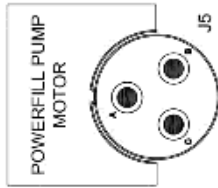

Figure 24: Wiring Schematic for 400Hz AC Bucket Refill Pump
The 400Hz AC bucket refill pump requires 38A at 208VAC and 400Hz. Refer to Figure 24 below for a schematic of a typical bucket refill pump installation. It is the responsibility of the operator to complete the wiring between the connector on the belly of the aircraft (J13) and a suitable AC power source.
**\*\*NOTE\*\***: The bucket can be completely or partially filled depending on the length of time for which the switch is depressed. Refer to Figure 24 for the recommended installation of the Bucket refill pump electrical connections.